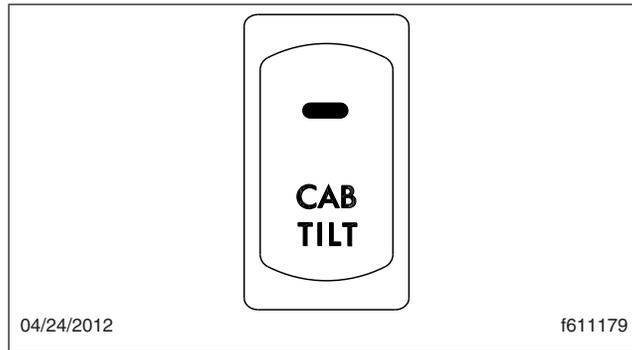

Fig. 25, Cab Tilt Switch
36. Press and hold the button on the pump until the cab nears a 45-degree angle (the balance point). See Fig. 25 . Once the cab goes beyond 45 degrees, release the button on the pump and move the tilt pump lever to the TILT position in order to slow cab descent.